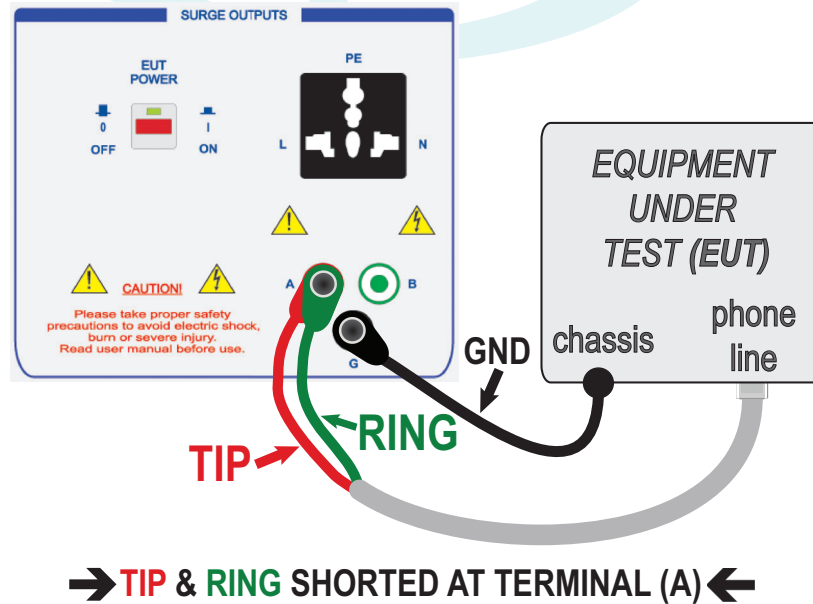

FIGURE 9 - Coupling Example for Type A – 1500V (longitudinal) Surge
The SGTEL-168 applies this surge between Terminal (A) and the Ground Terminal (G). Therefore, the EUT lines to be tested should be connected to these terminals for this surge, as shown in Figure 9.